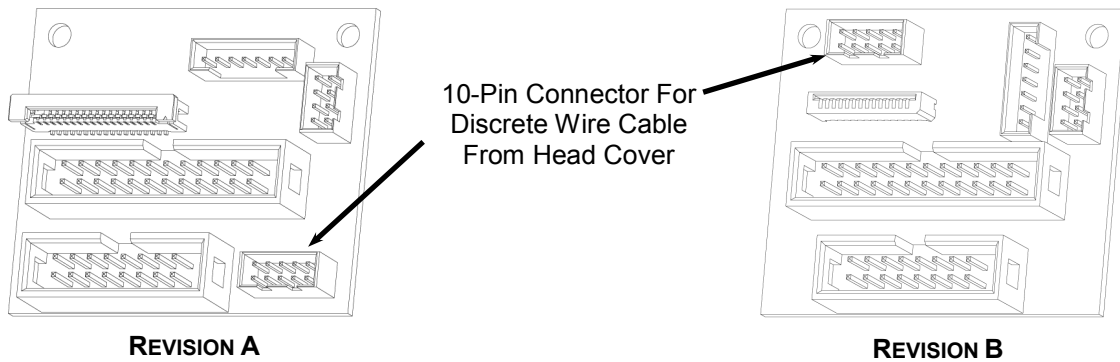

FIGURE 7: LOCATION OF CONNECTOR FOR HEAD COVER CABLE FOR THE EARLIER REVISION A AND LATER REVISION B MACHINES
6. **Unplug the head cover cable at the head connector board attached just to the left of the Y-drive motor pack.** The location of this connector on the connector board will vary depending on the machine's production date (See Figure 7). You may have to reach underneath the head to unplug the cable. Notice how the cable is routed alongside and under the Y-truck motor pack. This routing is important to remember when re-assembling the cover.